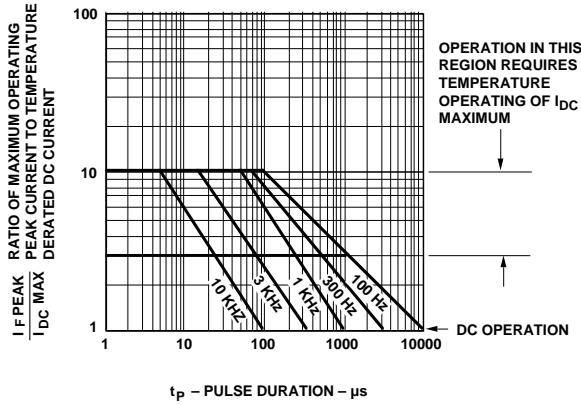

Figure 6. Maximum Tolerable Peak Current vs. Pulse Duration – HER, Orange.
3. See Figure 6 to establish pulsed conditions.